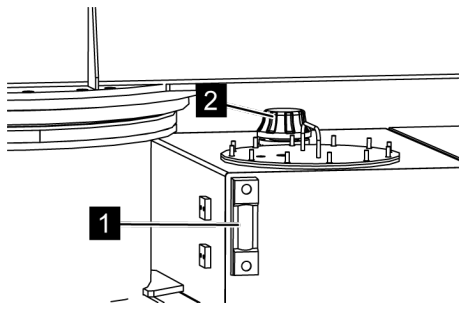

Fig. 139: Unscrewing the lid
6. → If necessary, top up hydraulic oil (Item no. 3917/0066) (↪ *Chapter 3 'Technical data' on page 43*). Open the padlock of the lid (Fig. 139/1) with the corresponding spanner and remove it (↪ *Chapter 4.6.1 'Keys' on page 66*).
7. → Unscrew the lid (Fig. 139/2) from the hydraulic oil tank.
8. → Fill up the hydraulic oil up to the maximum marking on the inspection glass (Fig. 139/1).
9. → Screw the lid (Fig. 139/2) back on and secure with the padlock.